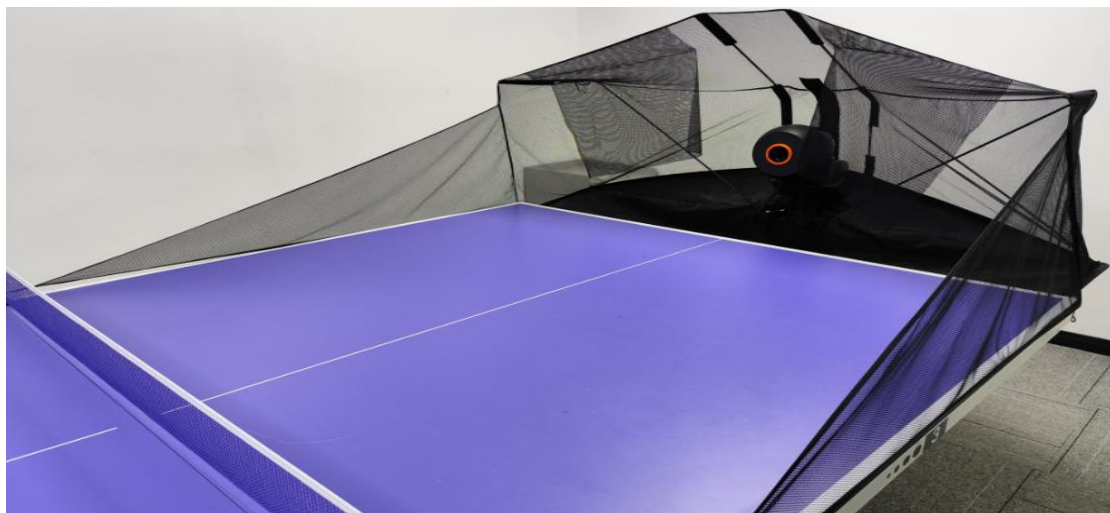

Figure 2-4
2.1.5. Push the robot to the center of the table's bottom edge, ensuring that the support rods on both sides of the ball recovery net are in contact with the table's bottom edge. Lock the omnidirectional wheel buckle. Straighten the elastic bands on both sides of the ball recovery net, pass them over the top of the table's net supports, and fix them on the table's net supports. (Figure 2-4)